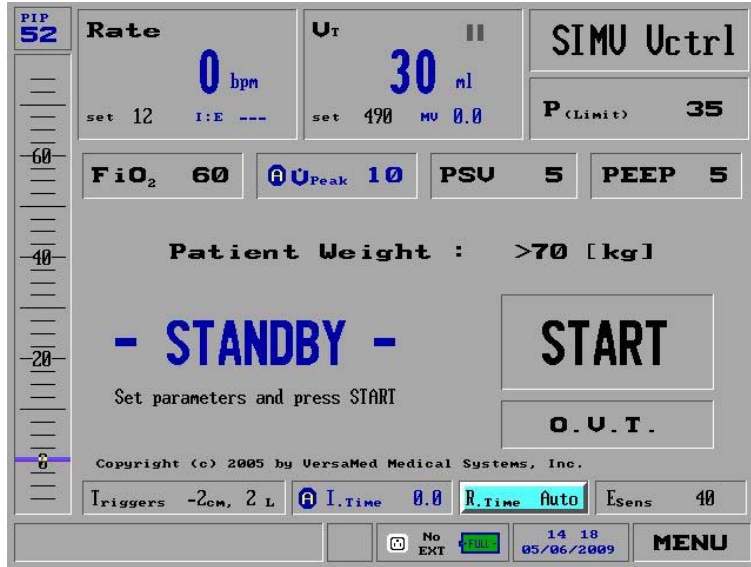

Figure 67: Rise Time Selected on the Main Screen
1. Select the **Rise Time** settings from the lower portion of the **Main** screen (Figure 67):